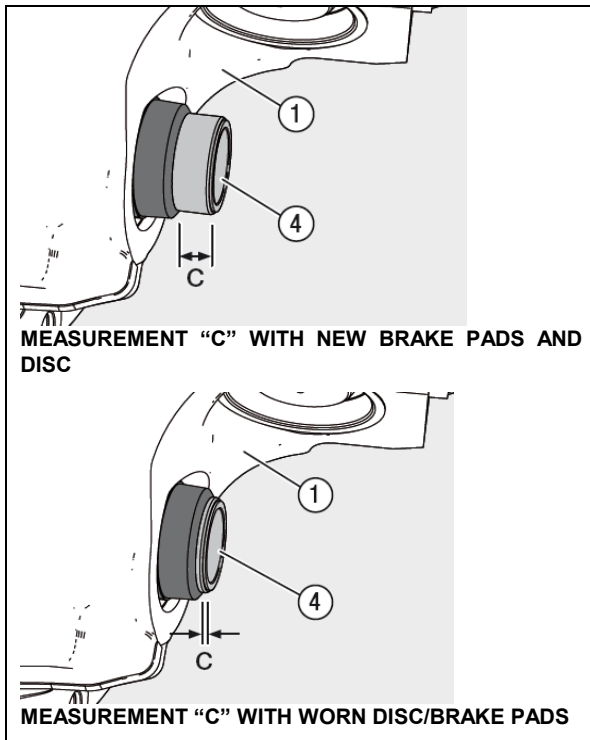

FIGURE 23: BRAKE PAD WEAR CHECK ON DRIVE AXLE
At each pad replacement, make sure the caliper operates smoothly over its full range of movement. If the caliper shows the following signs, replacement of the guide sleeve (6c, fig 23), guide pin, screw (39) and cap is required.